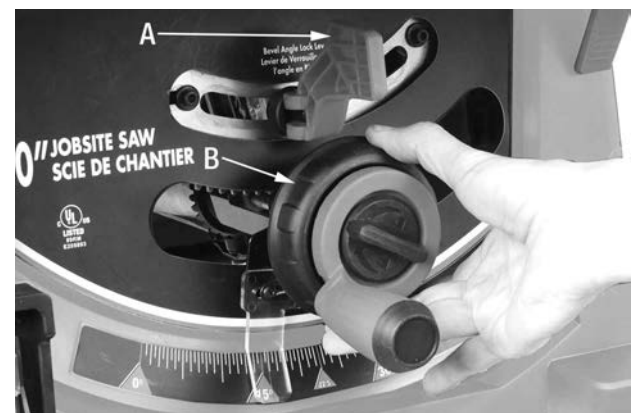

FIGURE 21
1. Unlock the bevel locking lever (A) Fig.21 by pulling the lever all the way to the right.
2. Push in and then turn the exterior handwheel (B) Fig.21 to adjust the blade bevel angle, turning it counterclockwise increases the bevel angle of the blade.
4. Once the desired bevel angle is achieved, lock the bevel locking lever (A) Fig.21 by pulling the lever all the way to the left.
2. Unlock the bevel locking lever (A) Fig.21 by pulling the lever all the way to the right. Push in and then turn the exterior handwheel (B) Fig.21 until the blade is set at a perfect 90°. Lock the bevel locking lever.